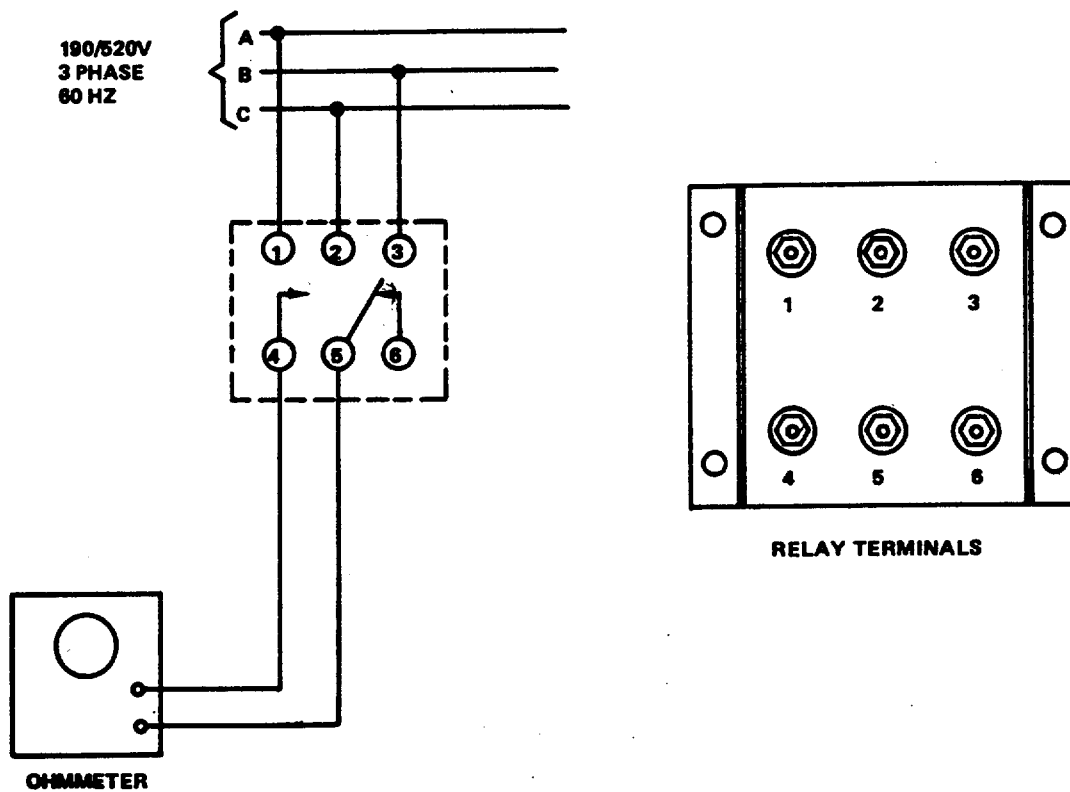

Figure 5-8. Phase Sequence Relay K103, Test Setup
- (1) Test. To test relays K103, connect as shown in test setup, figure 5-8. This relay operates on 190-520 volt, 3-phase, 60 Hz. When incorrect phase sequence A, C, B (figure 5-8), is applied the relay will energize until power is removed. Ohmmeter connected to terminals 4 and 5 will indicate continuity at this point until the correct phase sequence is applied, then an open circuit will appear at terminals 4 and 5.